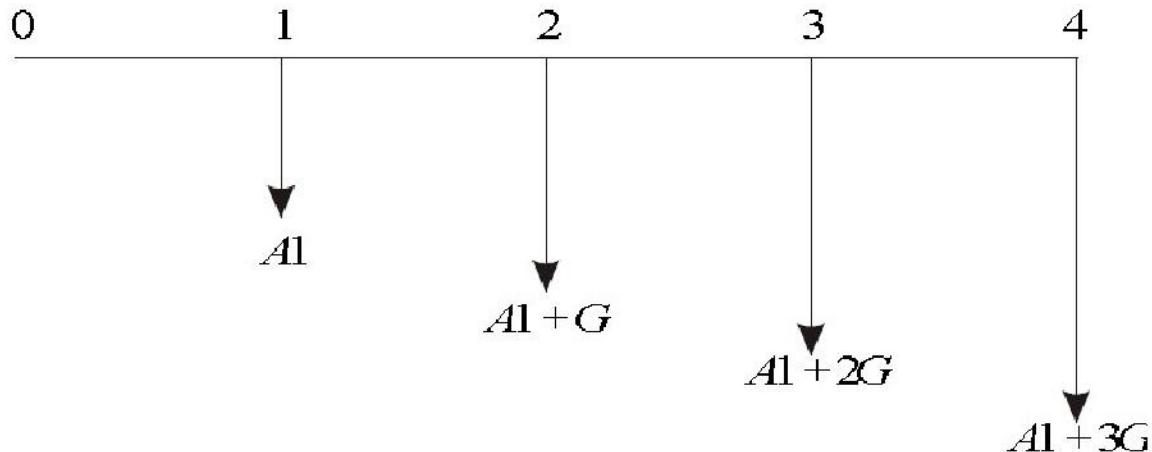

Fig. 3.31 Uniform gradient series cash flow diagram.
The annual equal increment of the above expenditures is Rs. 2,222.20 (G). The cash flow diagram for this situation is depicted in Fig. 3.31.